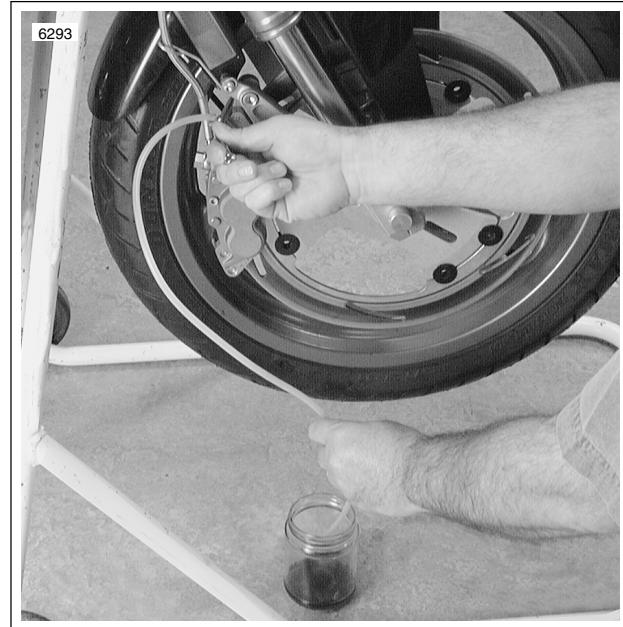

Figure 2-20. Draining Front Brake System (Typical)
1. See Figure 2-20. Drain brake fluid into a suitable container. Discard of used fluid according to local laws.